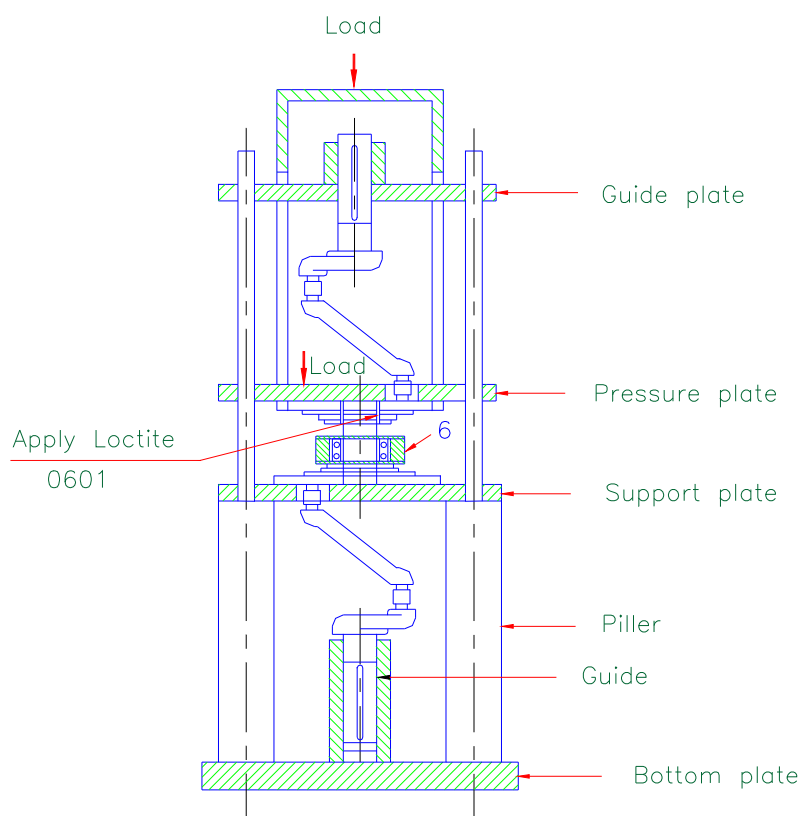

Fig.6
- 10) Press the second half on crank shaft with fixture such that load comes on round disc ϕ 128 only and both end diameters are guided as per figure. (See Fig.6)